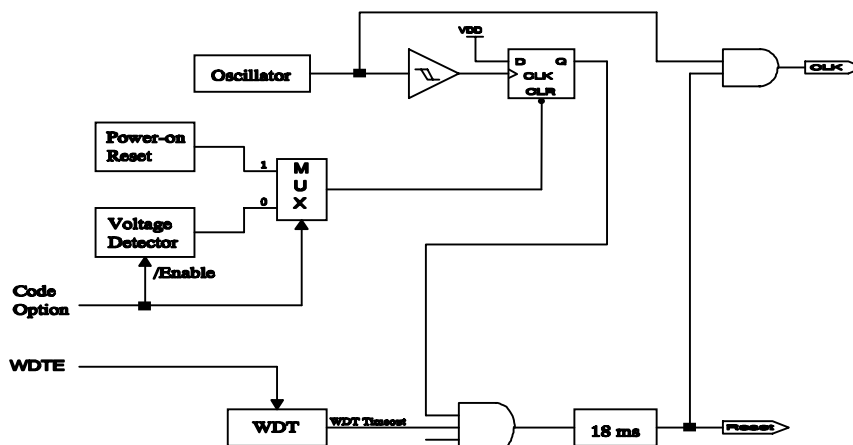

Fig.8 Block diagram of Reset of controller
- (1) Power on reset, or Voltage detector
- (2) WDT timeout. (if enabled and in GREEN or NORMAL mode)
Note that only Power on reset, or only Voltage detector in Case(1) is enabled in the system by CODE Option bit. If Voltage detector is disabled, Power on reset is selected in Case (1). Refer to Fig. 8.